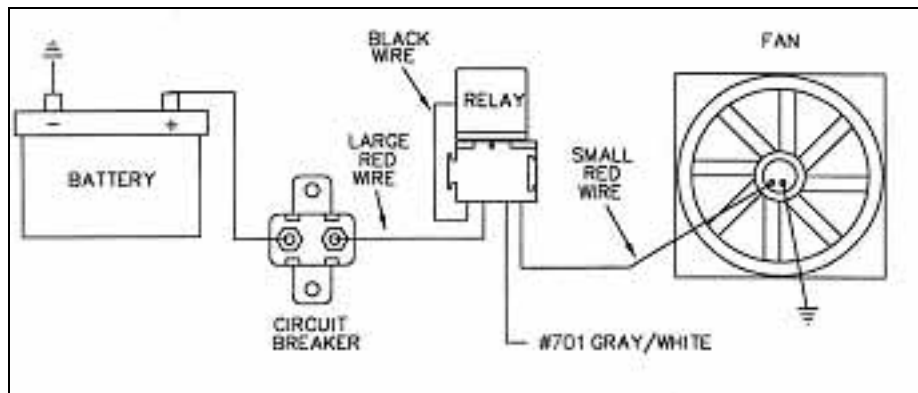

Figure 9-5A Typical Fan Relay Installation (Fan Relay Kit – Painless Part #30101)
- 9.5.4 Connect HEADLIGHT SECTION A wire #701 (gry/wht) to the Electric Fan Relay. This wire is an activation wire for the relay, **NOT A POWER FEED**. The other end of wire #701 is in the ACCESSORY SECTION SWITCHES and should be connected to the electric fan switch in the dash. Wire #706 is the power feed wire for the electric fan switch. **Figure 9-5A** shows a typical fan relay installation.